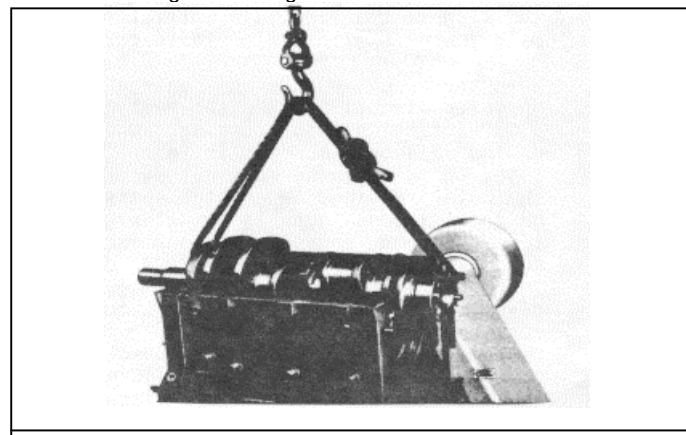

Fig.2
- (9) Remove the flywheel and flywheel housing.
- (10) Remove the crankshaft pulley retaining bolt and washer at the front end of the crankshaft. Then remove the pulley.
- (11) Remove the front engine support. Remove the crankshaft front cover and oil pump assembly.
- (12) Remove the oil seal spacer.
- (13) Remove the oil seal spacer.
- (14) Remove the cylinder heads.
- (15) Remove the connecting rod bearing caps.
- (16) Remove the main bearing caps and stabilizers.
- (17) Remove the thrust washers from each side of the rear main bearing cap.
- (18) Remove the pistons, connecting rods and liners.
- (19) Remove the crankshaft (Fig. 2), including the timing gear and oil pump drive gear.
- (20) Refer to SM1-63-26.0 for removal of the crankshaft timing gear.
- (21) Remove the oil pump drive gear and Woodruff keys from the crankshaft.